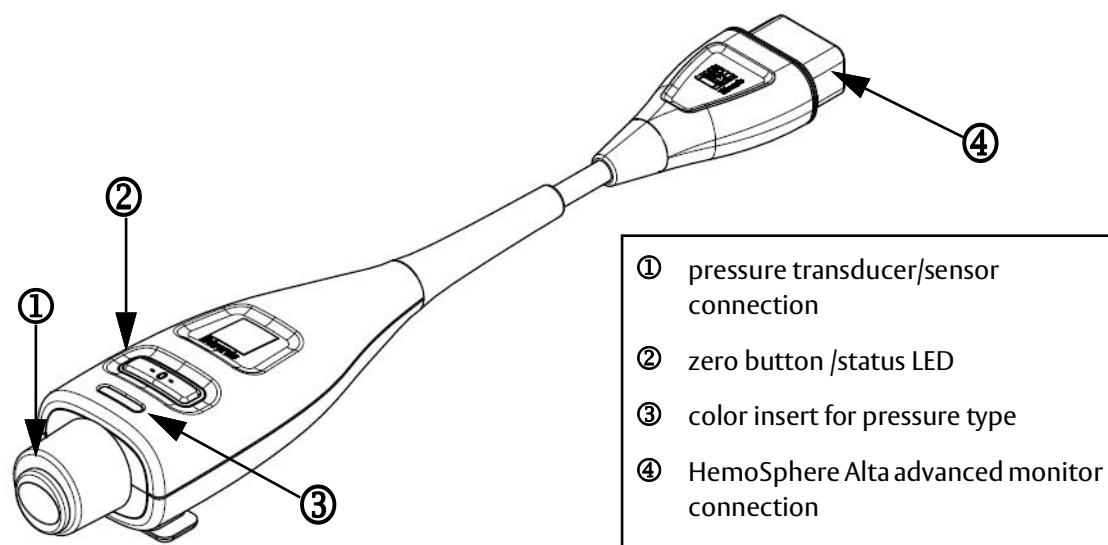

Figure 9-1 HemoSphere pressure cable
The HemoSphere pressure cable is a reusable device that connects with the HemoSphere Alta advanced monitor on one end ④ and any approved single Edwards disposable pressure transducer (DPT) or sensor on the other end ①. See Figure 9-1 on page 138. The HemoSphere pressure cable acquires and processes a single pressure signal from a compatible Edwards DPT, such as the TruWave DPT, or a FloTrac or Acumen IQ sensor connects to an existing arterial catheter to provide minimally invasive hemodynamic parameters. A TruWave transducer can connect to any compatible pressure monitoring catheter to provide location based intravascular pressure. Refer to the directions for use provided with each catheter for specific instructions on catheter placement and use, and for relevant warnings, cautions and notes. The connected technology type appears on the top of the parameter tile (see Figure 4-2 on page 71). The three technology types available are based on the paired sensor/transducer: **FloTrac** sensor, Acumen IQ sensor (**IQ Sensor**) or **TruWave** sensor. Parameters in the parameter configuration menu are categorized by technology. The appearance and connection points for the HemoSphere pressure cable are shown in figure 9-1.
Pressure Type Color Insert. If desired, the appropriate color insert can be used on the pressure cable to indicate the monitored pressure type. See ③ in figure 9-1 below. The colors are as follows:
- Red for arterial pressure (AP)
- 7 Use a straight in or out motion to connect the green connector of the primed FloTrac sensor. The pressure cable LED that surrounds the zero button (see ② in figure 9-1) will flash green indicating that the pressure sensor is detected. A yellow light indicates a fault condition. If this occurs refer to the status bar for specific fault condition details.
Press the physical zero button  directly on the pressure cable and hold for three seconds (see figure 9-1).